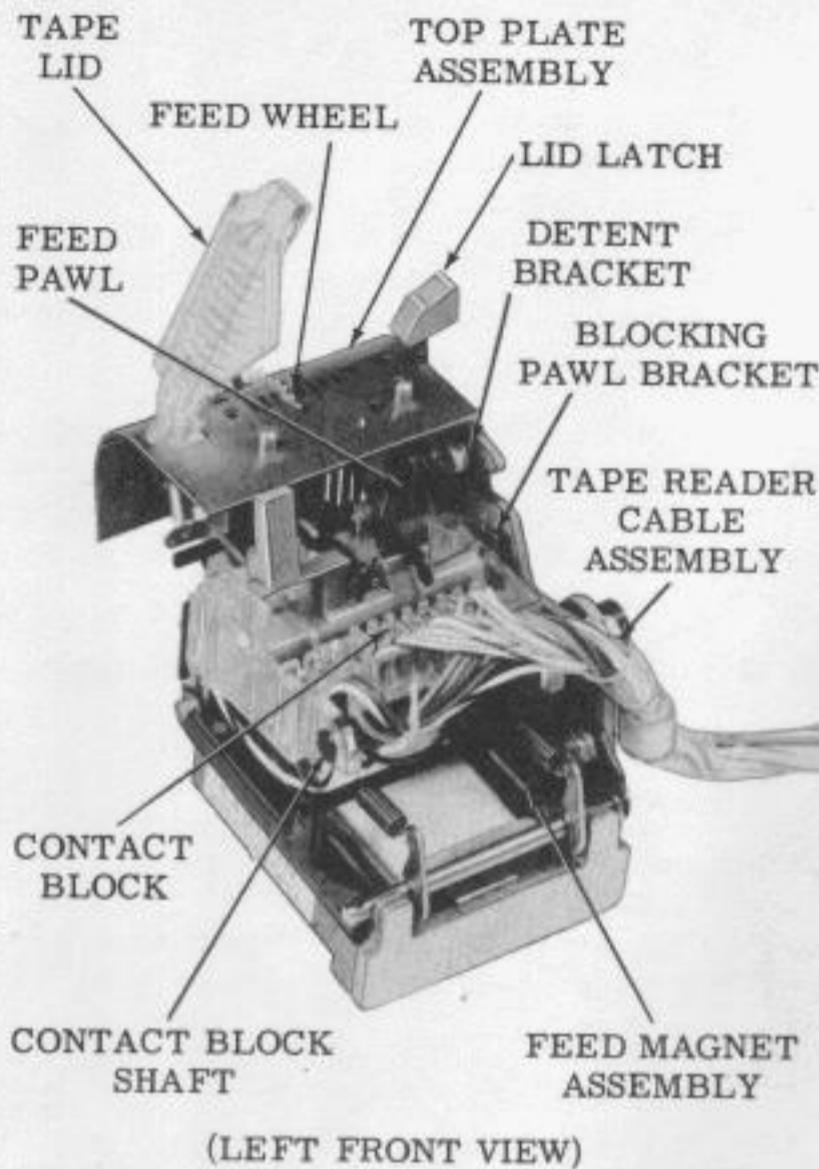

Figure 2 — Tape Reader (Without Cover)
- (1) On 32 Automatic Send-Receive (ASR) Teletypewriter Sets, remove tape reader plug marked R1; on 33 ASR, remove tape reader plug marked no. 6.
- (2) Remove plug from power pack.
- (3) Remove two push-on terminals from tabs of the tape reader feed magnet contact assembly.
- (4) Remove any cable clamps necessary.
- (5) Remove four TP121551 call control bracket mounting screws.
- (6) Lift call control unit and remove tape reader cable which is located under the call control unit.
- (7) Replace call control unit.
- Note: Reference Figure 2.
- (8) Remove two push-on terminals from tabs of the feed magnet coil.
- (9) Remove the TP3598 nut on the TP183026 contact block shaft and slide shaft until it is out of the body hole of the TP183036 mounting plate.
- (10) Pull the TP183049 contact block towards the front of the tape reader until the contact block mounting slots are disengaged from the TP183048 top plate bracket mounting slots.
- (11) Remove the TP183049 contact block and the cable assembly.
- (12) To replace contact block and cable assembly, reverse procedure used to remove it.
Note: Reference Figure 2.